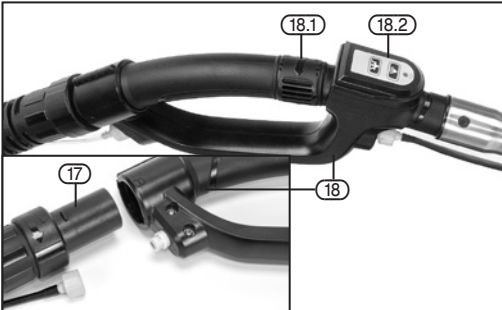

FIG. 8
7.3 CONNECTING ATTACHMENTS – FIGS. 8 - 9